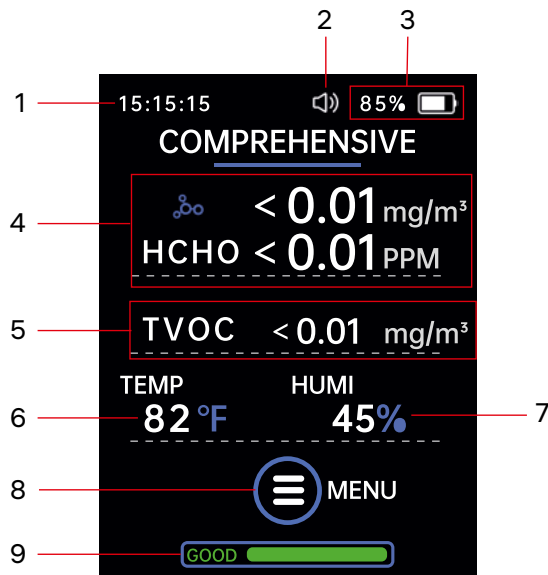

Figure 1
After turning the power on, the LCD screen (2) will display the time, volume, battery status, formaldehyde (HCHO) and total volatile organic compounds (TVOC) values, ambient temperature and humidity, and air quality indicator (Fig. 1). Press the menu button (6) to enter the main menu. Press and hold the Left button (4) for 3 seconds to switch between °C and °F. Press the Left (4) and Right (8) buttons to go to the menu functions (Fig. 2).